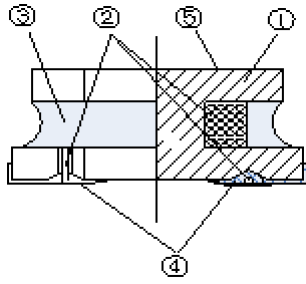

Fig. 6-1
1) The structure of AMWPH3015S product, please refer to Fig.6-1 and Table 6-1.